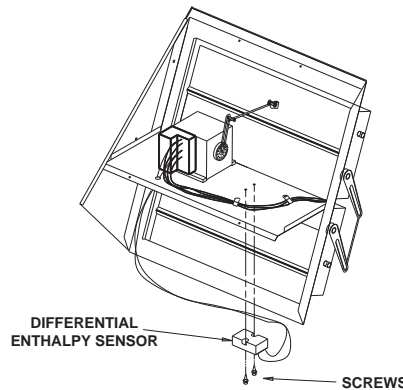

Figure 2.
- Mount the second enthalpy sensor on the bottom side of the motor deck, see Figure 2.